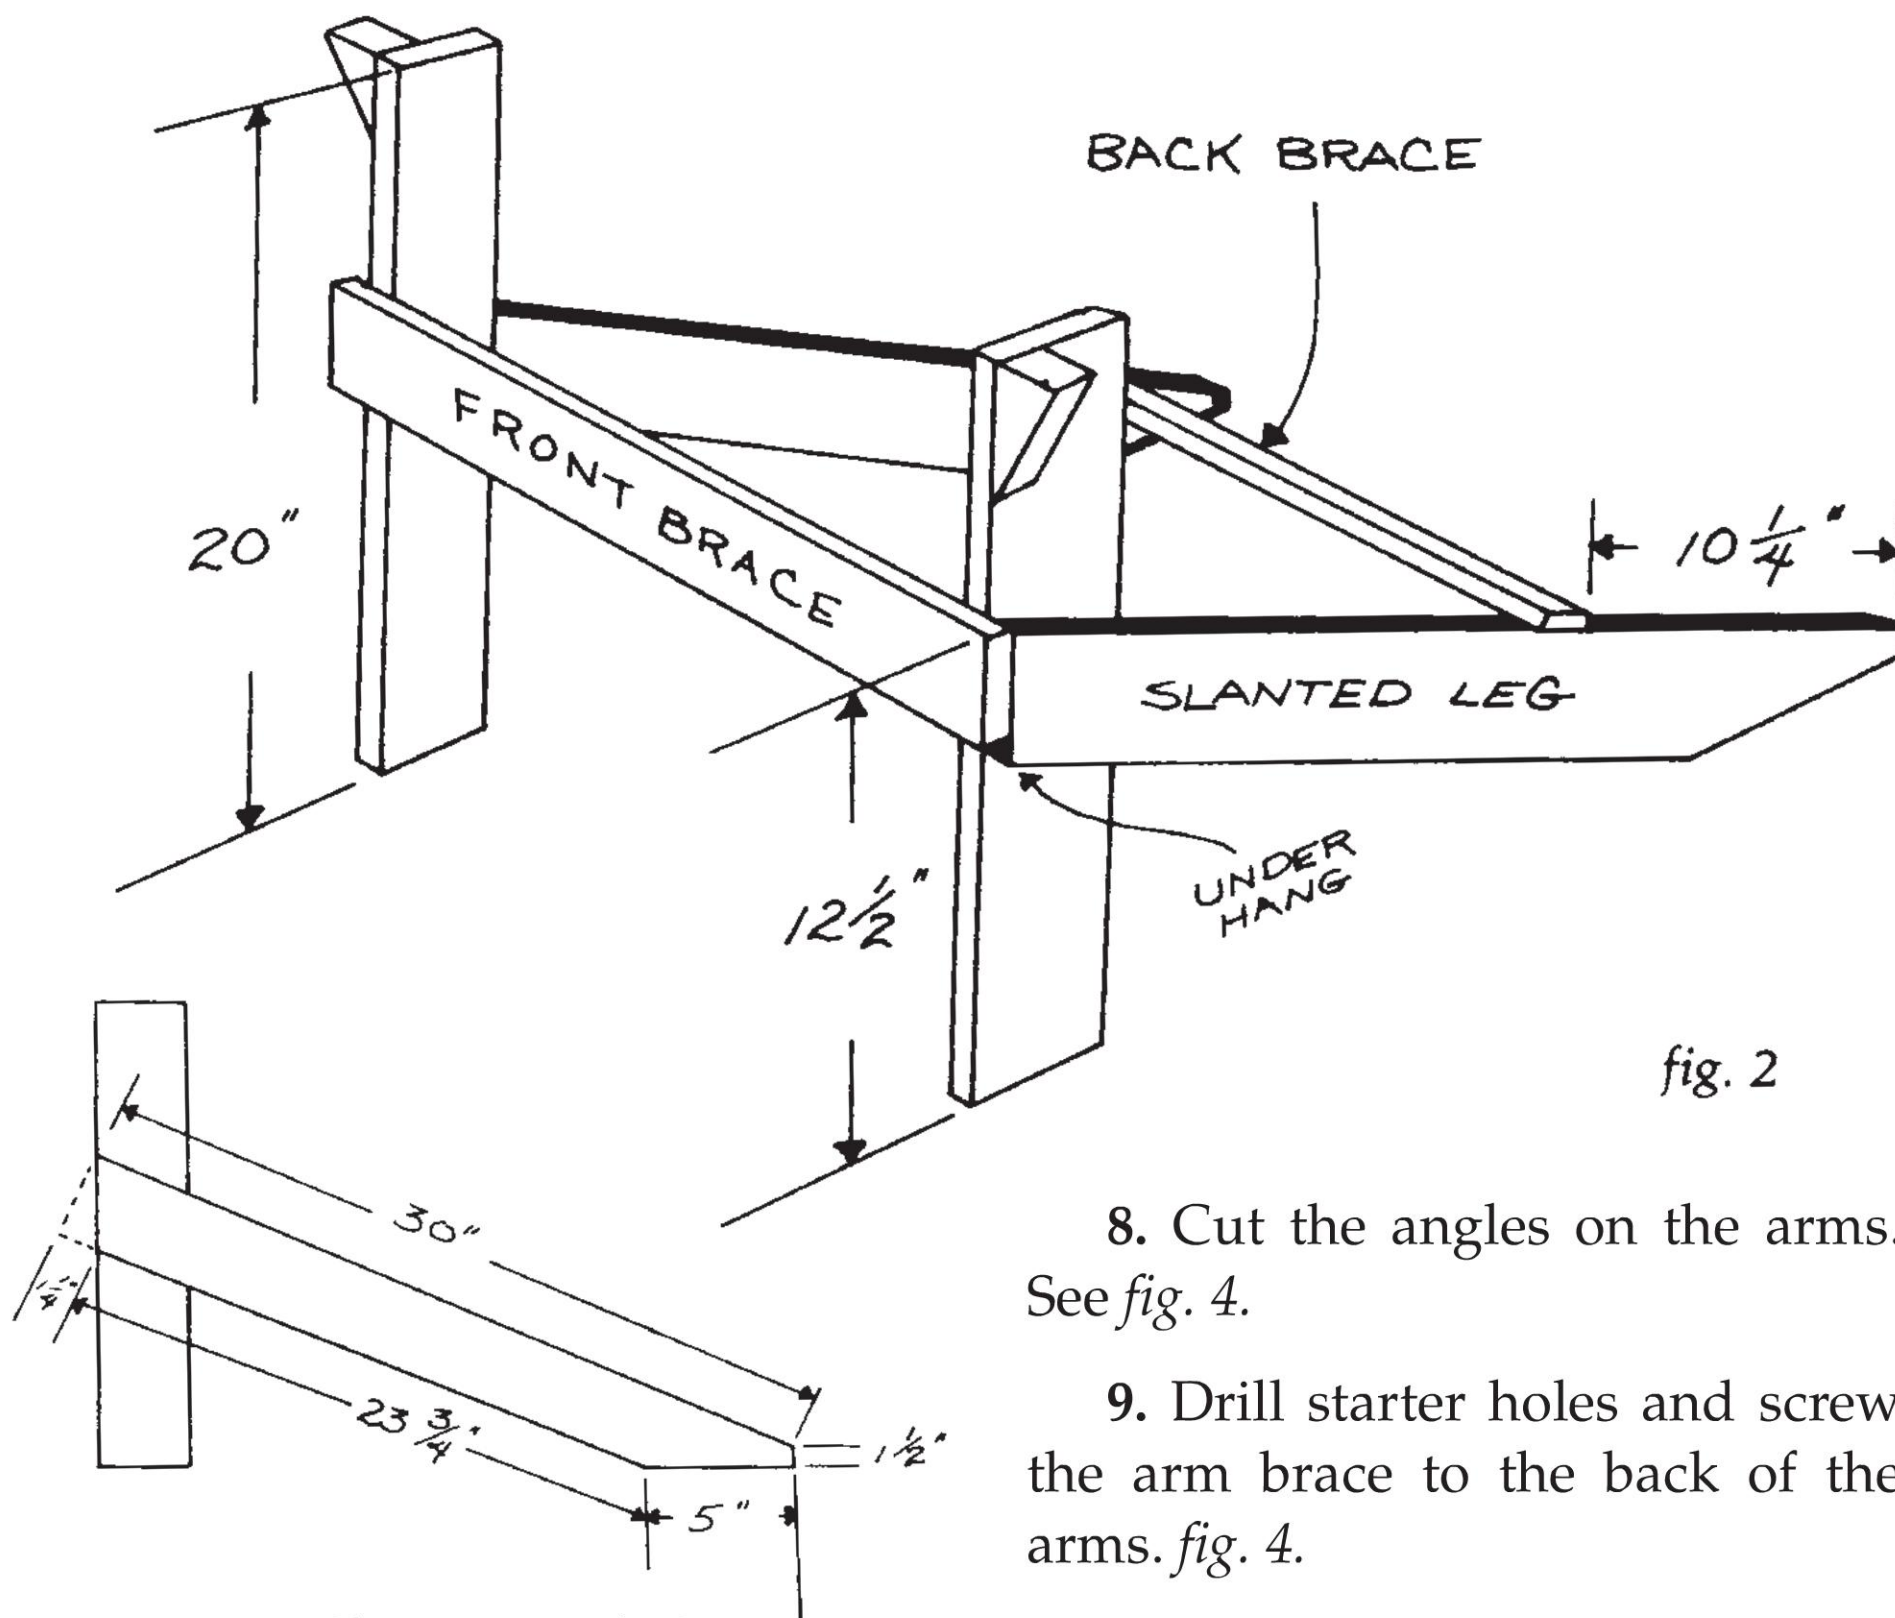

fig. 2
5. Drill starter holes and screw the slanted legs to the front legs. *fig. 2.*
7. Drill starter holes and screw the front and back braces in place. Refer to *fig. 2.*
slanted legs. See fig. 2.